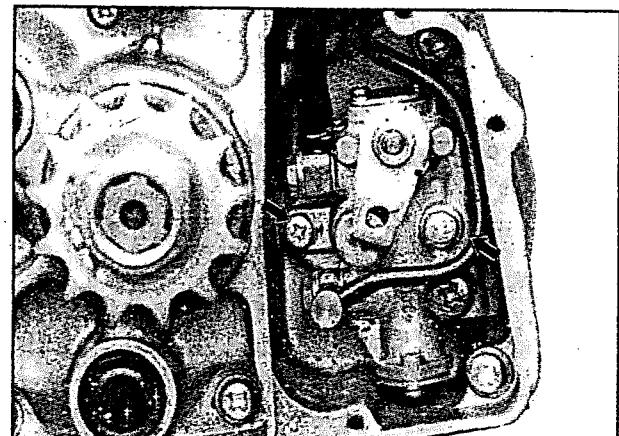
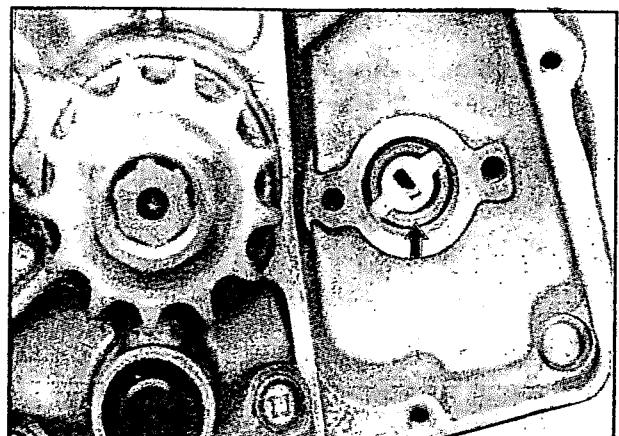

Fig 3.30
Fig 3.31
- Remove the oil pump and oil pump drive piece by loosening the 2 screws (fig 3.30 and fig 3.31)